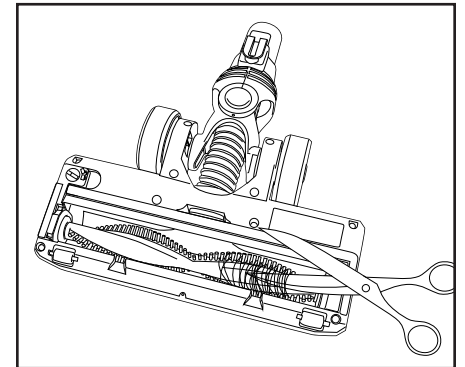

Fig. 3
2. Use scissors to remove any buildup entangled around the brushroll (Fig. 3).